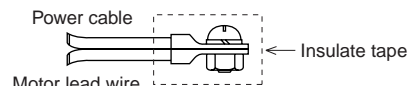

Fig. 1
Connect power cables with motor lead wires with facing each solderless terminal as shown in Fig. 1.
- For inverter-driving the motor with a brake, use the primary-side power supply for braking as shown in Fig. 1, and synchronize the braking operation with the ON/OFF operation of the unit.